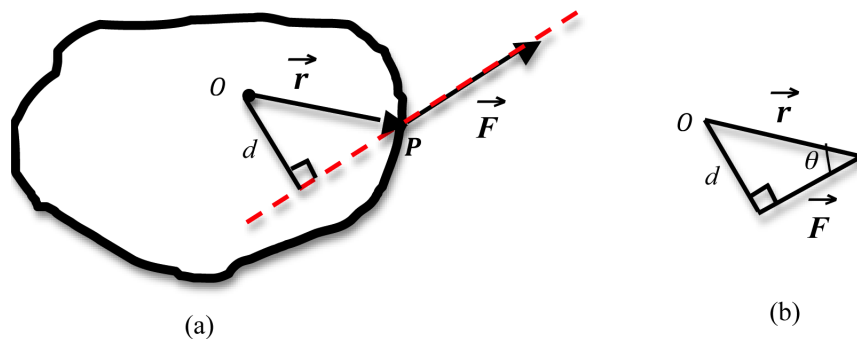

Figure 2: Illustration of lever-arm concept
- 2 Draw a perpendicular line from the axis of rotation O to the line of action of the force. This line, marked d in Fig. 2, represents the lever arm.